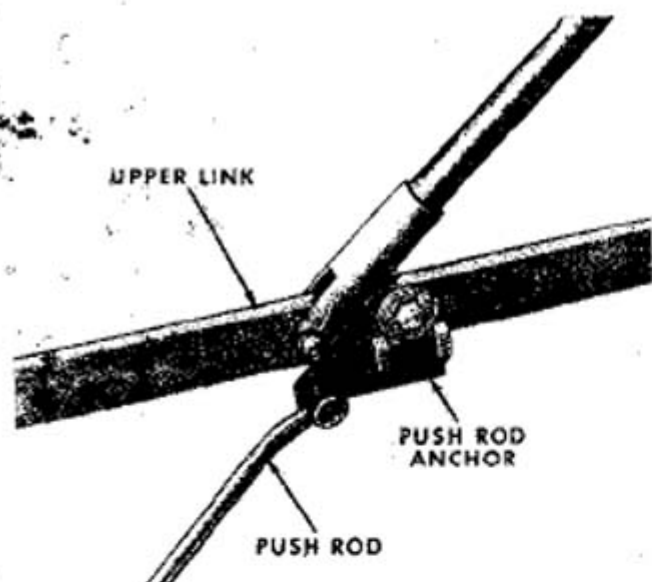

Figure 4
**Ford 4000 Tractors:** Install the push rod anchor assembly on the left lower link and the push rod on the anchor as shown in Figure 4.